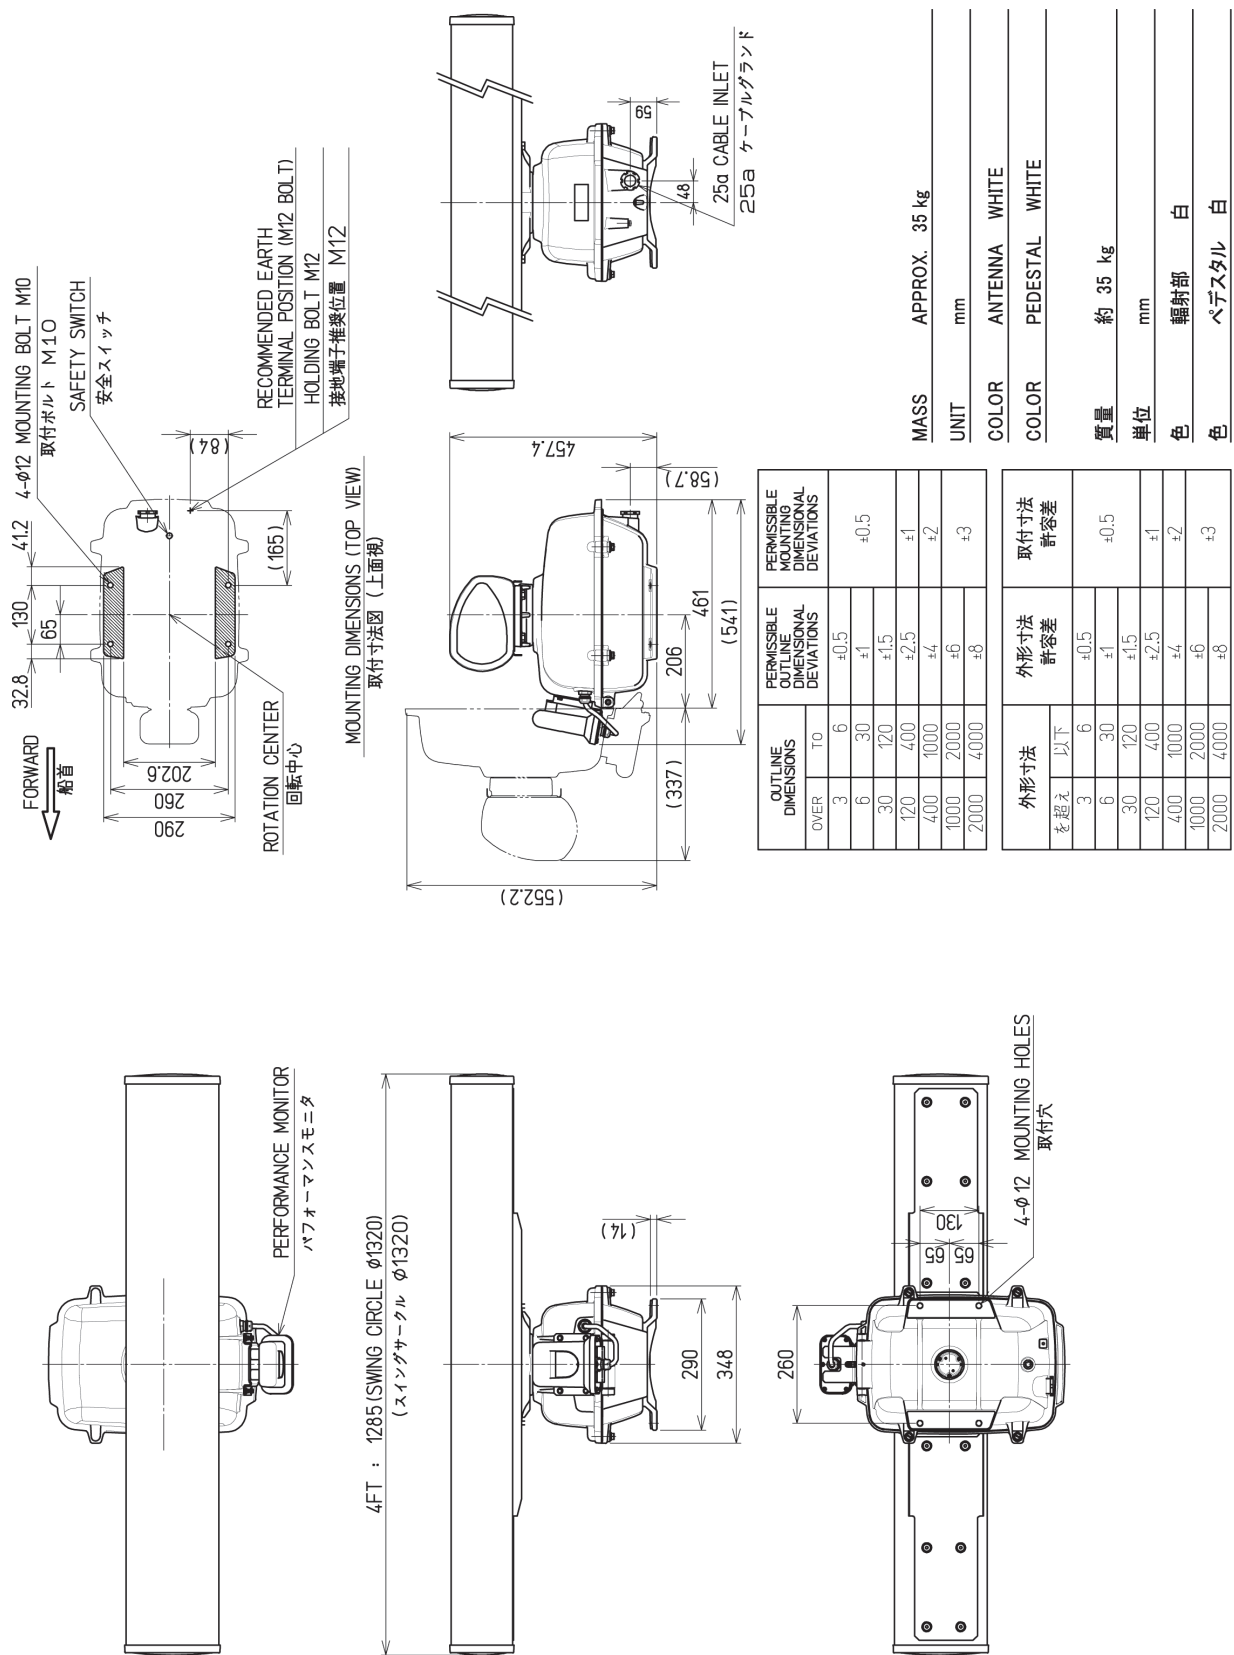

Fig. 1.4 Exterior Drawing of Scanner Unit, Type NKE-2103-4/4HS
- Fig. 1.4 Exterior Drawing of Scanner Unit, Type NKE-2103-4/4HS